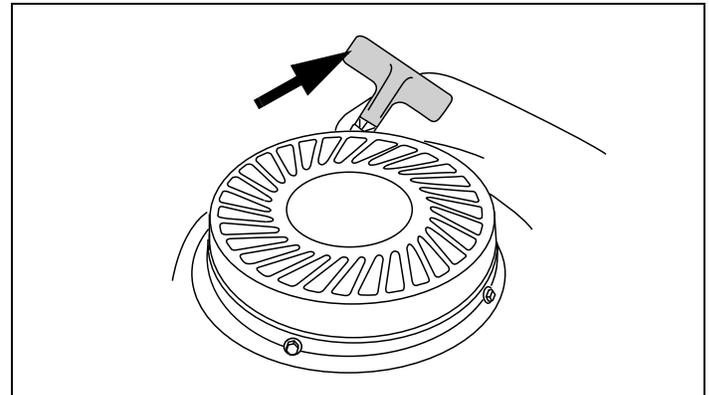

Figure 14. Starter Cord Handle
5. Grasp starter cord handle. See Figure 14 on page 7. Afterward, continue reading instructions below.
5. Grasp starter cord handle. See Figure 14.